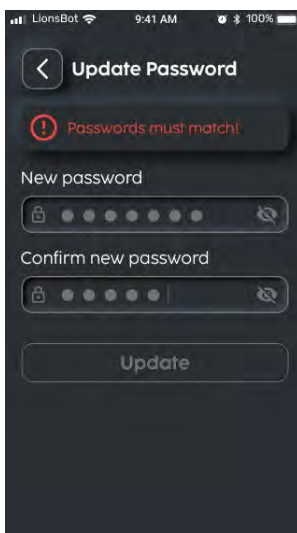

Fig. 7
5. Confirm new password (Fig. 7).